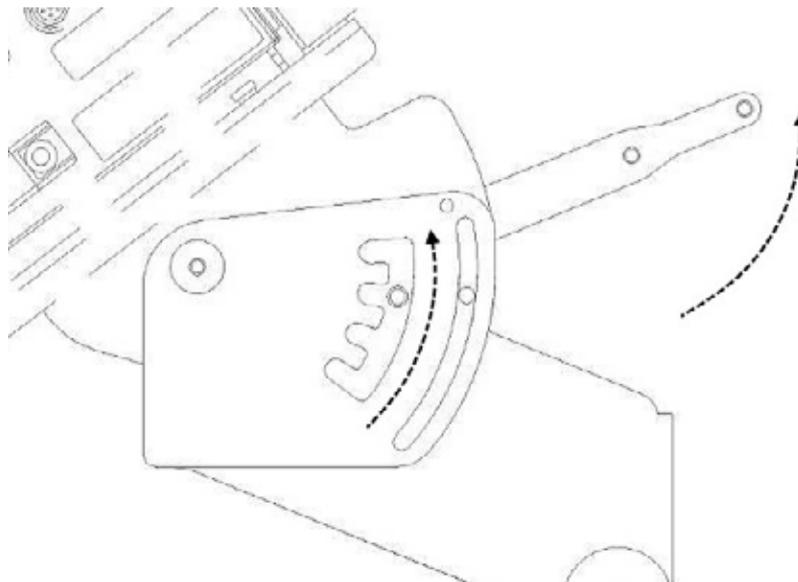

Figure 10 Dispenser Head Adjustment
2. Pull the **Dispenser** Head Angle Adjuster Handle forward to disengage the pin from the notch (refer to Figure 10).